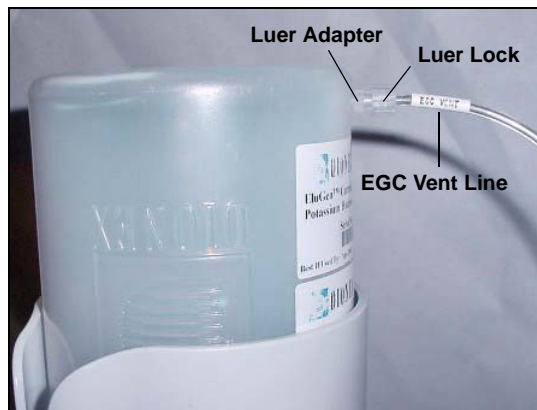

Figure 60. Installing the EluGen Cartridge Vent Line
5. Twist the luer lock and EluGen cartridge vent line into the luer adapter (see Figure 60).